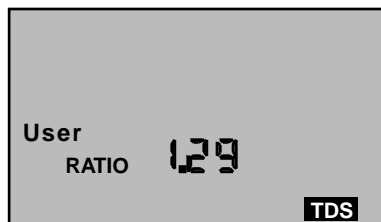

Figure 4
- b. Press  twice (to skip over tempco adjustment), and “RATIO” will appear (see Figure 4).